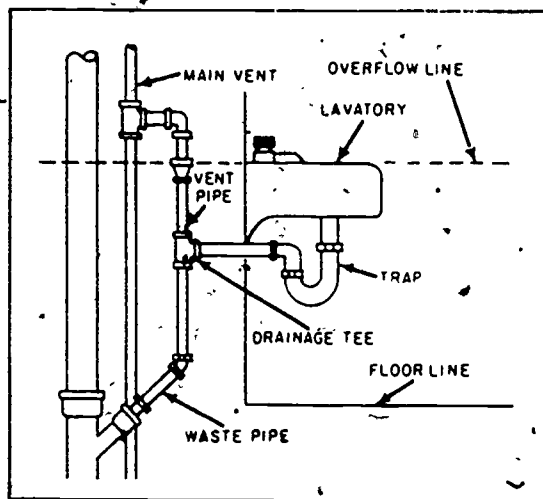

Figure 2-18 Single fixture individually vented
**Individual vent.** The installation of a single fixture when a main vent is used is illustrated in figure 2-18. Notice the drainage through the waste pipe to the waste stack. The vent pipe above the trap is connected to the main vent. This method of venting a fixture is referred to as an individual vent. The vent piping must rise vertically at least 6 inches above the fixture rim before changing the direction for connection to the main vent. The fixture is said to be dry vented, because there is no drainage flow through the vent piping in the